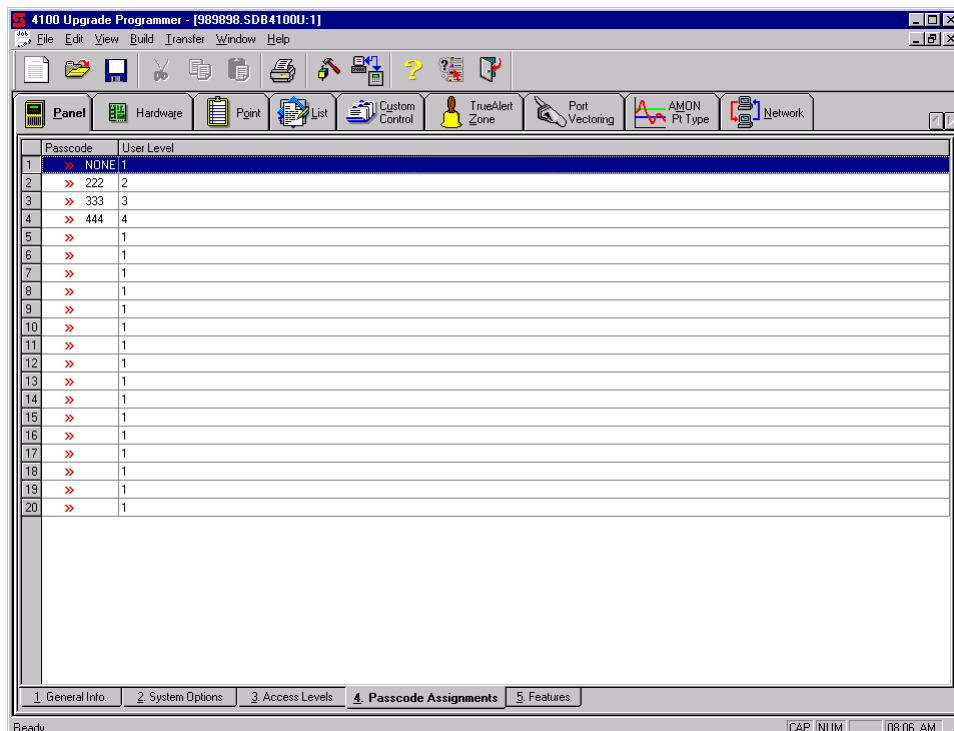

Figure 4-5. Passcodes Screen
2. Click on the Passcodes Tab at the bottom of the programmer. A screen similar to the one shown in Figure 4-5 appears.